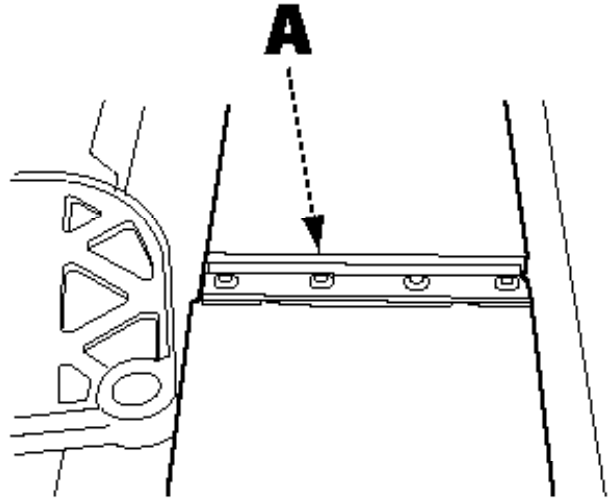

FIGURE 19
2. Carefully and slowly rotate the cutterhead by hand until the clamp bar and four clamp screws (A) are accessible. See Figure 19.
10. Perform final tightening on each of the four clamp screws uses the proscribed sequence in Figure 19.